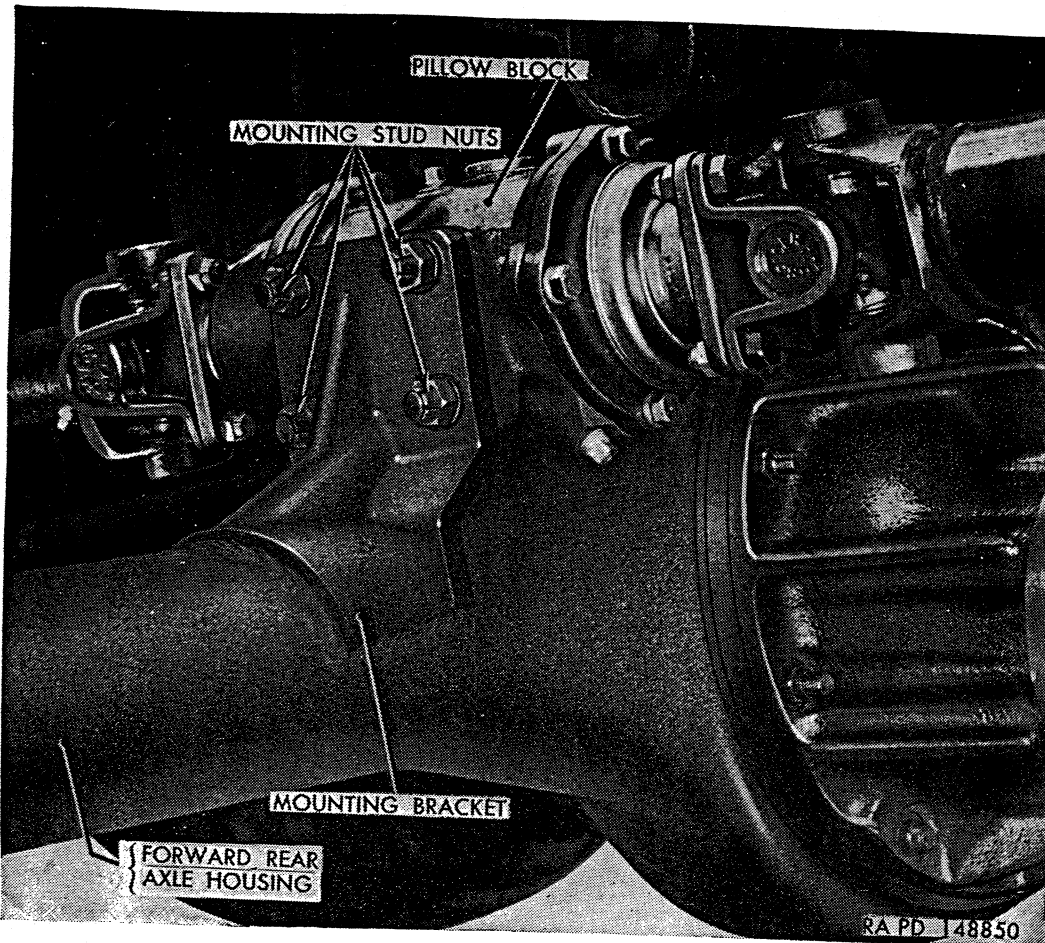

Figure 243. Pillow block installed.
*a. Description.* Pillow block consists of a shaft supported by two ball bearings mounted in a housing. Pillow block is installed on forward rear axle housing as shown in figure 243. Double lip oil seals, supported in retainer, are used at each end to prevent loss of lubricant and entry of dirt, water, and other foreign matter.